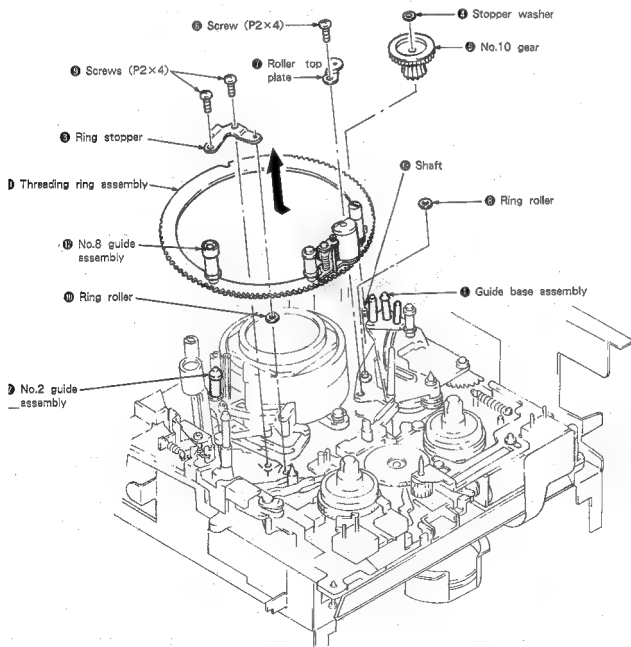

Fig. 7-12.
Removal (See Fig. 7-12.)
2. Mounting (See Fig. 7-12.)
-) Remove the threading ring assembly according to 7-3-7. 1. Removal. (See Fig. 7-12.)
- 6) Mount the threading ring assembly according to 7-3-7, 2, Mounting. (See Figs. 7-12, and 7-13.)
- 2 Remove the threading ring assembly according to 7-3-7. 1. Removal. (See Fig. 7-12.)
- 3 Remove screw ① and E ring ②.
- 4 Remove the slant guide block assembly ③.
- 5 Mount the threading ring assembly according to 7-3-7. 2. Mounting. (See Figs. 7-12. and 7-13.)